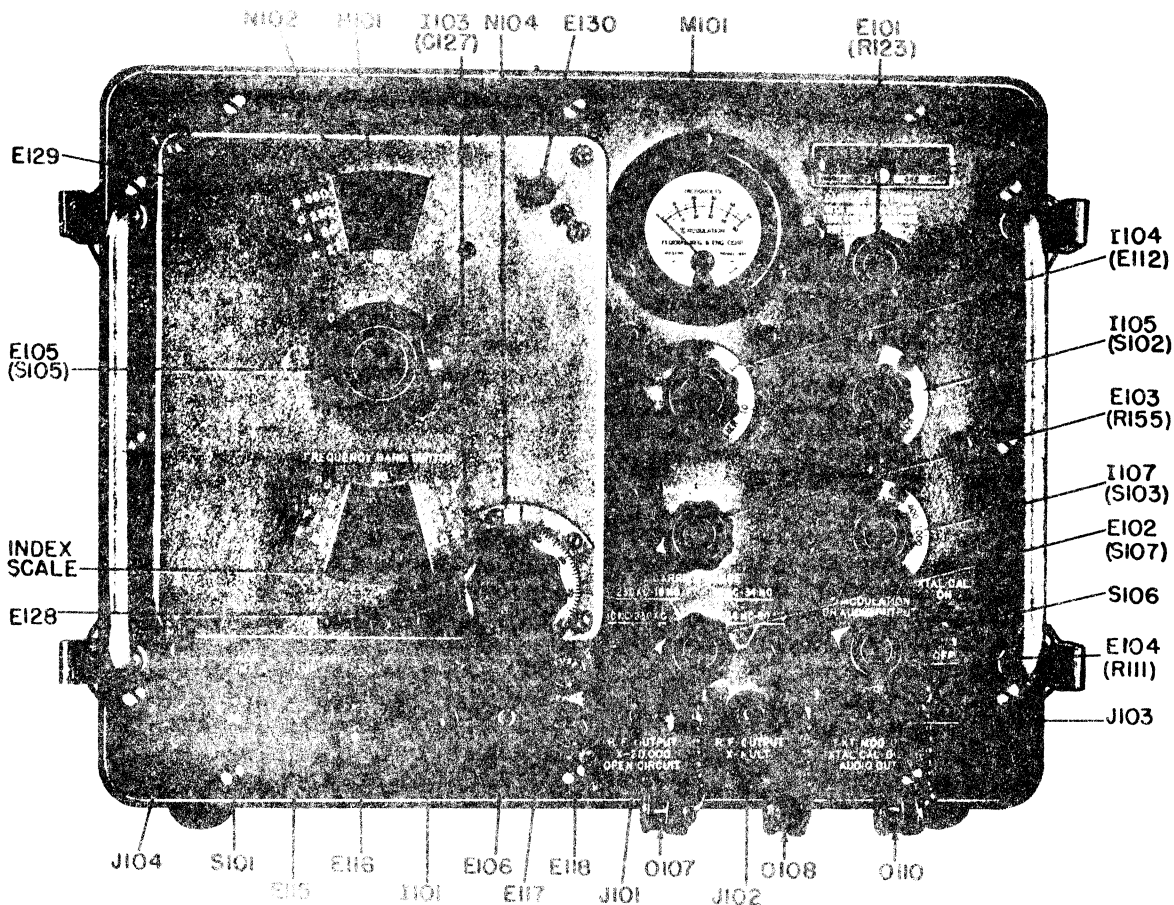

Figure 4-1. RF Signal Generator SG-44C/URM-25, Front Panel Diagram
c. The following preliminary settings and checks are required prior to placing the equipment in operation (See figure 4-1).
- (1) Turn POWER switch (S-101) to OFF position
- (2) Turn CARRIER CONTROL E-101 to the fully counterclockwise position.
- (3) Plug power cable W-101 into power receptacle J-104
- (4) Insert other end of power cable W-101 into 115 volt AC source.
b. The following preliminary checks and adjustments may be required in zero setting the meter (M-101). All symbols designations in this paragraph refer to Section 4, figure 4-1.
(1) Turn CARRIER CONTROL E-101 and % MODULATION control E-104 to the fully counterclockwise positions.
(2) Turn the signal generator on by placing POWER switch S-101 to the ON position. (Allow a 15 minute warm-up period).
(3) Set METER READS dial I-105 first in the RF position and then in % MOD and BAL positions. Meter M-101 should read zero in all positions.
(4) If the meter does not read zero, follow the meter calibration procedure outlined in Section 6, par. 10.
All reference to symbol designations in this section apply to the front panel diagram Figure 4-1 unless otherwise specified. Primary reference is made to the symbol designation of the front panel knob (i.e. E-101) applicable to the specific circuit element (i.e. R-123). The association between the knob and circuit part is shown on Figure 4-1 by indicating the corresponding circuit element designation following the knob symbol (i.e. E-101 (R-123)).
TABLE 4-1. OPERATIONAL SUMMARY OF FRONT PANEL CONTROLS (See figure 4-1)